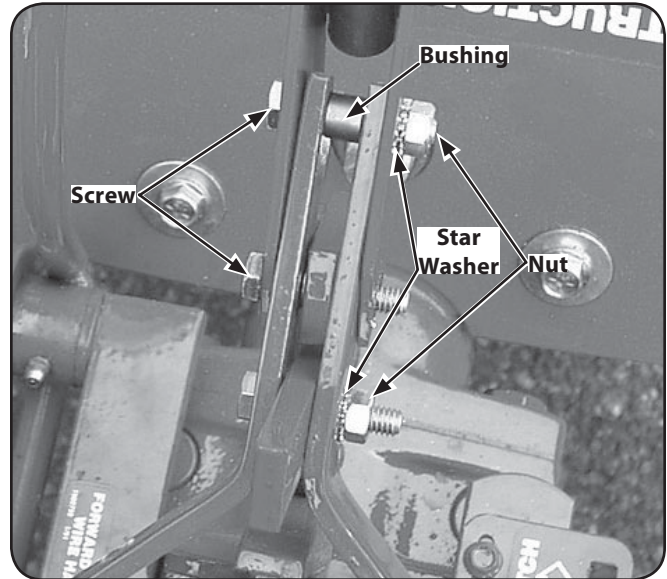

Figure 3-8
4. Align the rear most holes of the yoke plates and the Wheels/Tines PTO Lever. Use long nose pliers to hold the bushing in place while inserting the screw through the lever and yoke plates. See Fig. 3-8. Install the star washer and the nut then hand tighten.